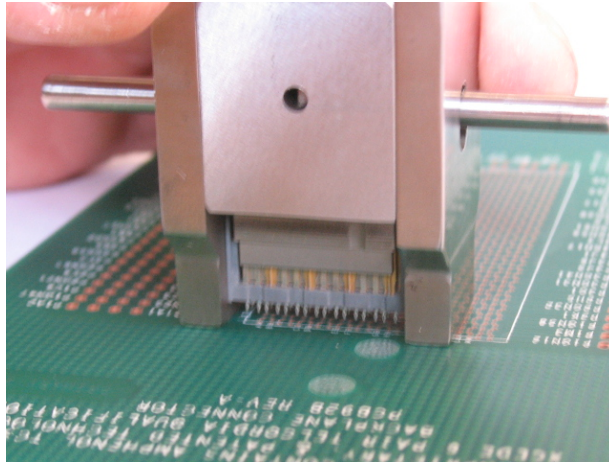
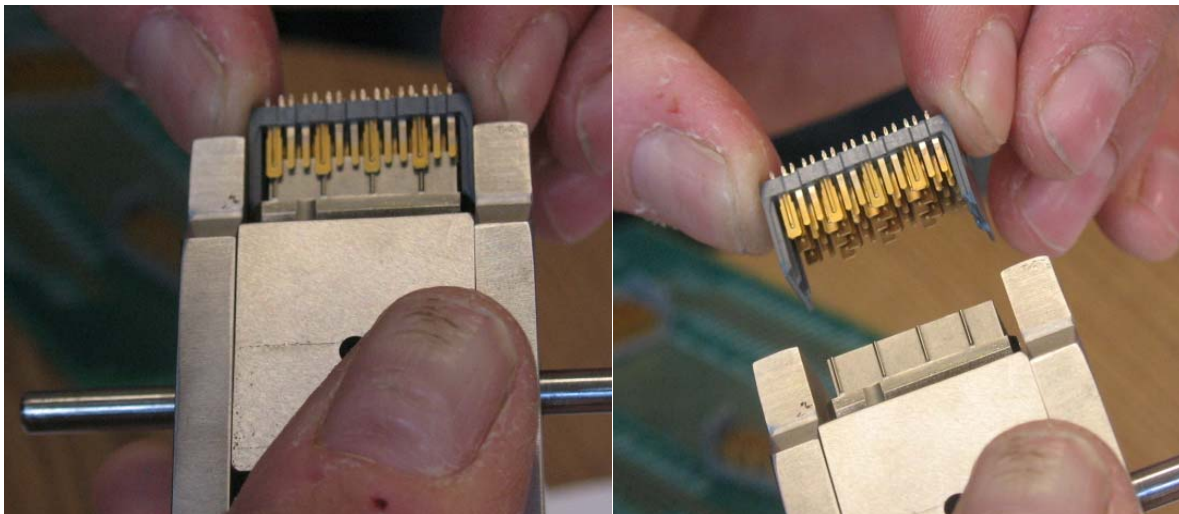

Figure 16. Backplane Module removed from Board
Figure 17. Module Removed From Tool
Step 7. Keep turning knob till the module is lifted from the board shown in Figure 16.
- Step 8. Start loosening knob and pull clamping plates back off large grounds (rods in the up position as shown in Figure 16). Remove module by pulling off by hand as shown in Figure 17. Inspect module to be sure that all components have been removed from board with their respective compliant pins. If any blades are left in the board, remove them individually with needle nose pliers, being sure that no compliant pins are broken off and left in board.